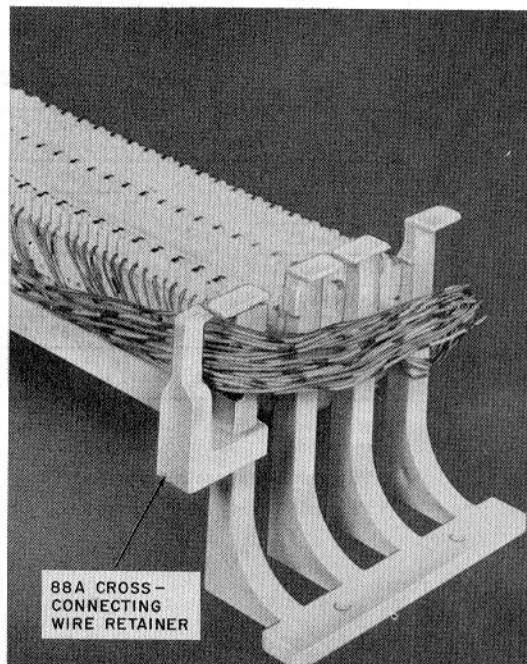

Fig. 6—88A Wire Retainer
2.09 The 88A wire retainer (Fig. 6) is used on top- or bottom-mounted blocks to form a fanning strip slot for the cross-connect wire.